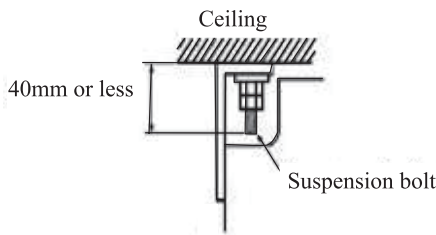

Figure 1-2-1 Hanger bracket
- Adjust the distance from the unit to the ceiling slab beforehand (Refer to Figure 1-2-1).